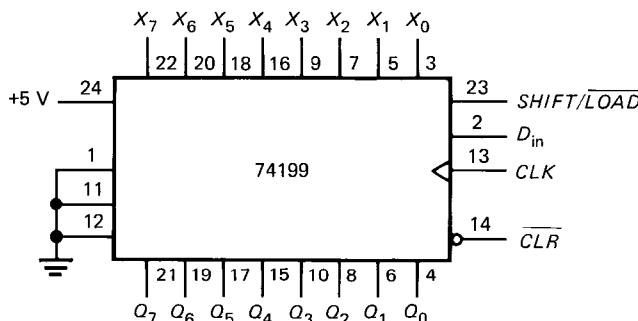

Fig. 8-30
- 8-4. A 74199 is an 8-bit shift-left register with a single control signal, as shown in Fig. 8-30. When $SHIFT/LOAD$ is low, the circuit loads the X word on the next positive clock edge. When $SHIFT/LOAD$ is high, the register shifts the bits to the left.
8-5. The clock frequency is 2 MHz. How long will it take to serially load the shift register of Fig. 8-30?
8-6. In Fig. 8-30, $Q = 0001\ 0110$. If $SHIFT/LOAD$ is high and D_{in} is high, what does Q equal after three clock pulses?